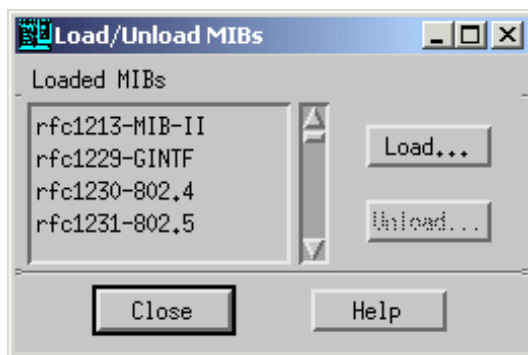

Figure 13-5 Loaded MIBs by default
9. Because the TWS MIB is not loaded by default, select **Load** as shown in Figure 13-5 on page 629.